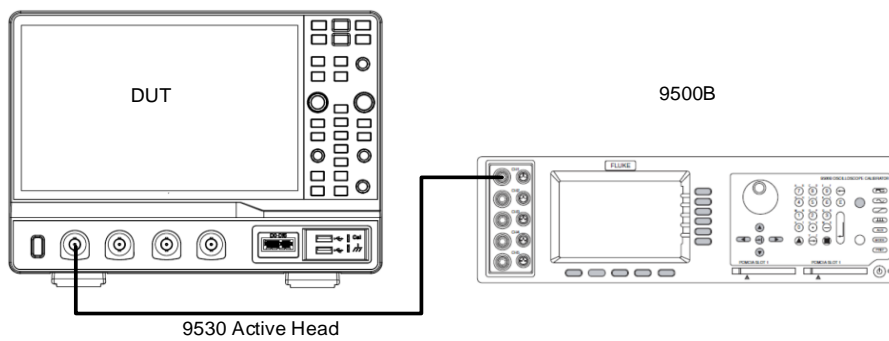

Figure 7 Test setup for DCG / Offset / Timebase
Note: The 9530 active head in Figure 7 is connected to any channel of the 9500B, and its BNC connector is connected to the specified channel of the oscilloscope according to the test.
2. Connect a selected channel of the oscilloscope to the 9500B with an active head as shown in Figure 7.